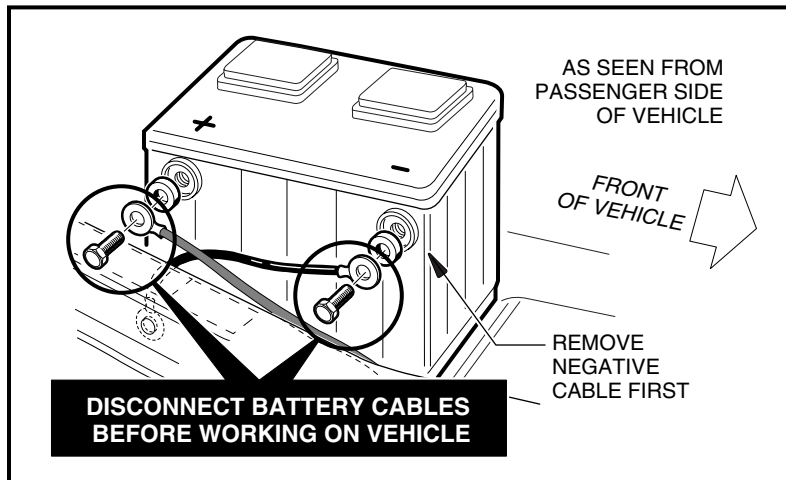

Figure 12-1 Battery Disconnect
2. Disconnect the battery cables as instructed (**Figure 12-1, Page 12-1**). See **WARNING "To avoid unintentionally starting..."** in **General Warning, Section 1, Page 1-1**.